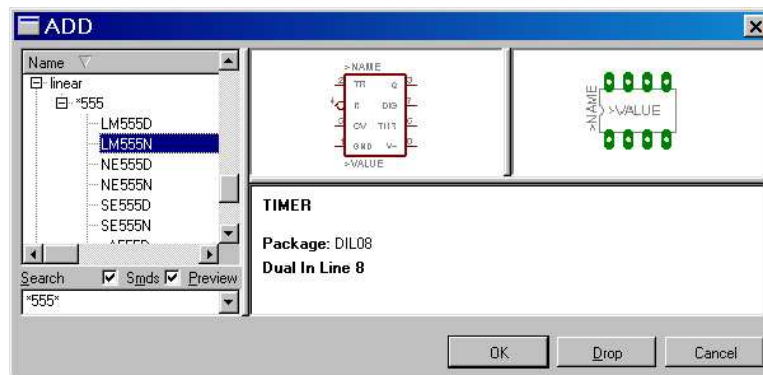

Figure 2.1: Edit box while adding a 555 timer.
Components are added to the schematic diagram from part libraries. A library is composed of several components and each component within the library has a schematic and a PCB representation. The schematic representation in the library is an electrical symbol, where as the PCB representation of a component is known as a footprint. Figure 2.1 shows an example of a 555 timer component within the "Linear IC" library. Note in the middle window the schematic symbol is shown, and in the right window, the PCB footprint is shown.
1. In the schematic window select **Edit > Add** from the menu bar. Alternatively, there is a tool bar to the left of the schematic window which has several shortcuts. If the mouse is hovered over the toolbar, a comment will appear indicating the icons command function. Either way, a new window will pop up displaying available libraries as shown in Figure 2.1.
4. Find the LM555N in the upper left scroll box and select it by clicking on it. It is important to note the details in the right windows when a component is selected, particularly note the schematic symbol and the PCB footprint package. There are many types of 555 timers in the linear library with the main difference being the PCB footprint. The "footprint" package of interest to us is an 8 pin DIP (Dual In-line Package), which corresponds to the LM555N. See Figure 2.1.